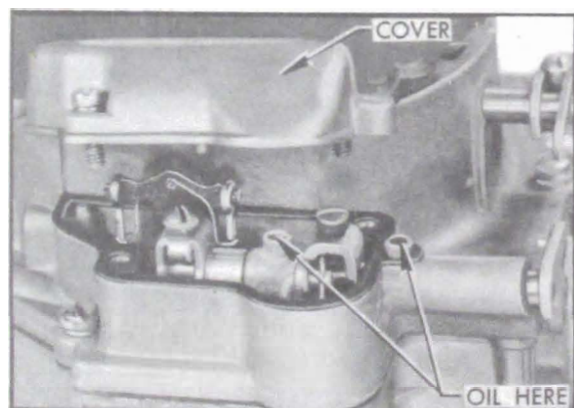

Figure 1-13—Countershaft Lubrication—Carter 4-Barrel
4. *Pump Operating Countershaft — Carter Carburetor Only.* On the 2-barrel carburetor, remove dust cover screws, apply several drops of engine oil in screw holes and install screws. On the 4-barrel carburetor, remove dust cover and apply oil in two oil holes above countershaft. See figure 1-13.